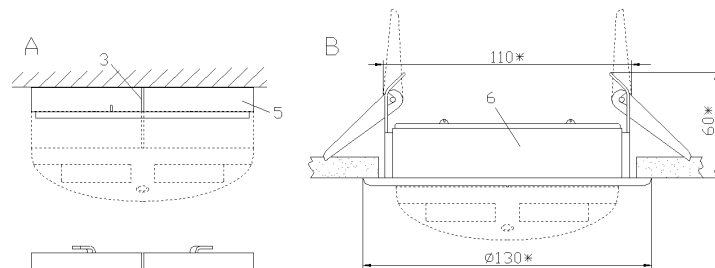

Figure 2
The detector can be attached in accordance with one of the two variants below (Figure 2). To attach the detector to a solid surface (*Variant A*) the detector base plate provided is used. Optionally, MK-2 Suspended Ceiling Mounting Kit (*Variant B*) can be purchased additionally to install the detector into a suspended ceiling.
To install the detector on the base plate, align the guide on the detector with the short guide of the base plate. Then turn the detector clockwise until the detector guide will be aligned with guide 3 as shown in Figure 2 (A).